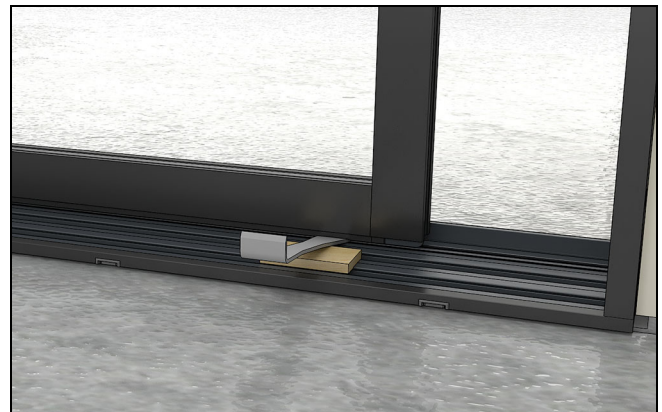

Figure 88
2. Place a block of wood on the sill and pry the panel up to relieve the weight off the rollers. See Figure 88.